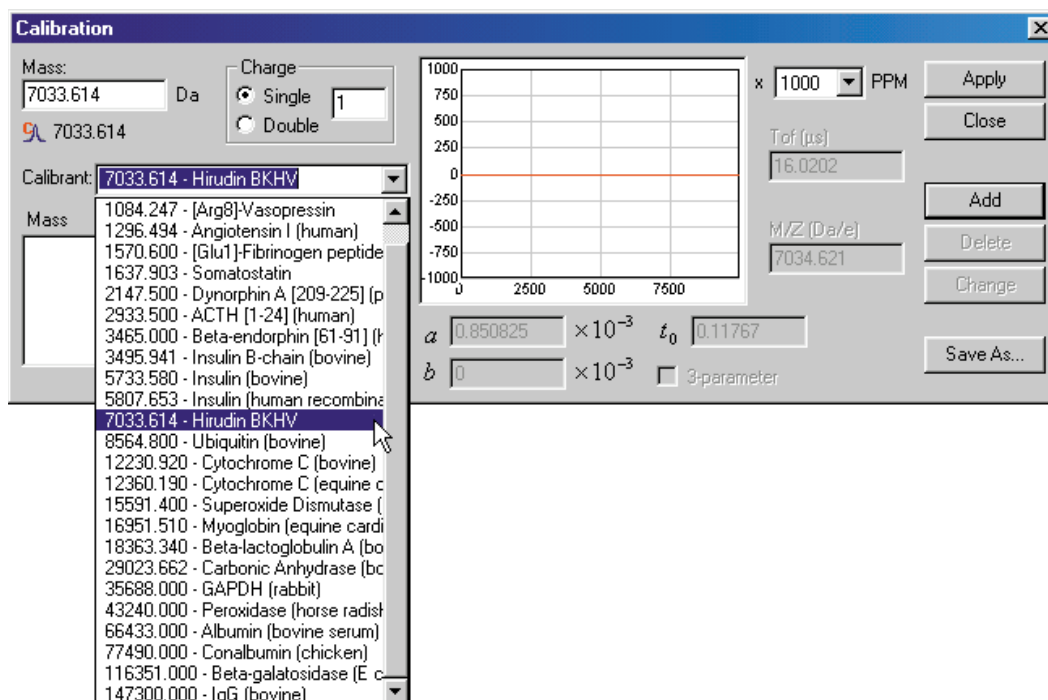

Figure 1-23: Selecting a calibrant.
- Click on a calibrant peak in the spectrum using the calibration cursor. The calculated mass of the peak will appear next to the cursor icon in the **Calibration** dialog (Figure 1-23).
- If the calibration peak is in the **Calibrants** drop-down list in the **Calibration** dialog, select it from the list. Otherwise, enter the correct molecular weight (MW) in the **Mass** field.